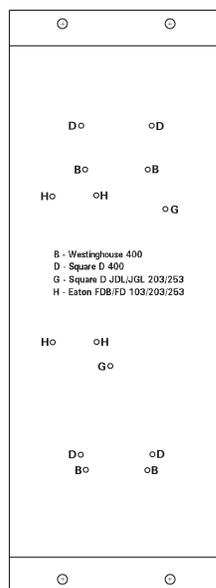

Figure 1
2. Place the Square D Operator (Sq. D P/N 9422-RQ1) on the Breaker Mounting Plate (ENTRON P/N 530026F or later) aligning the mounting holes on the Operator with the “G” designated mounting holes on the Plate (note plate orientation in Figure 1).